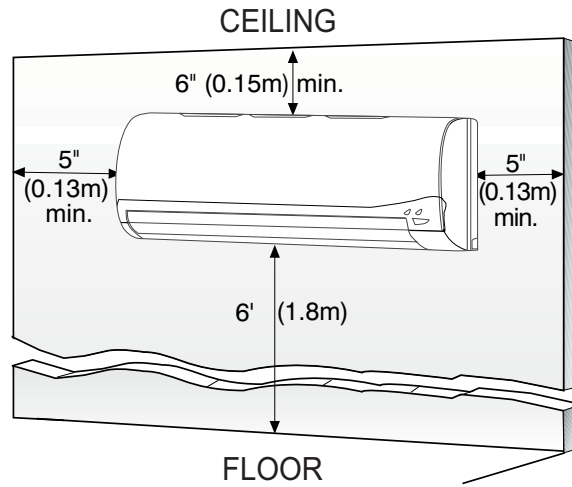

Fig. 14 - High Wall Clearance
- A location with the appropriate clearances (see Fig. 14).